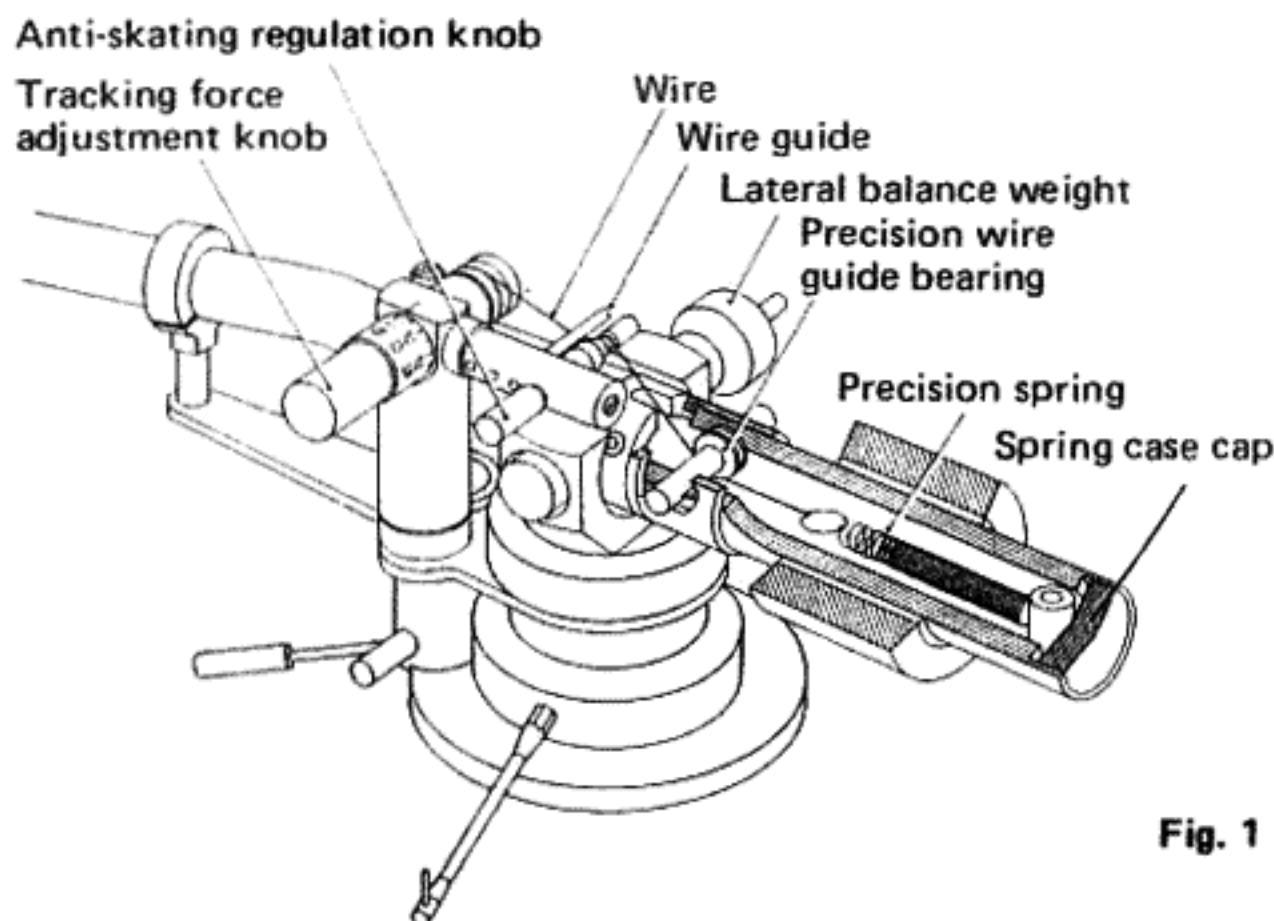

Fig. 1
- 5) Remove the cap of the spring case by rotating it counter-clockwise with a two-pin screw driver. (fig. 1)